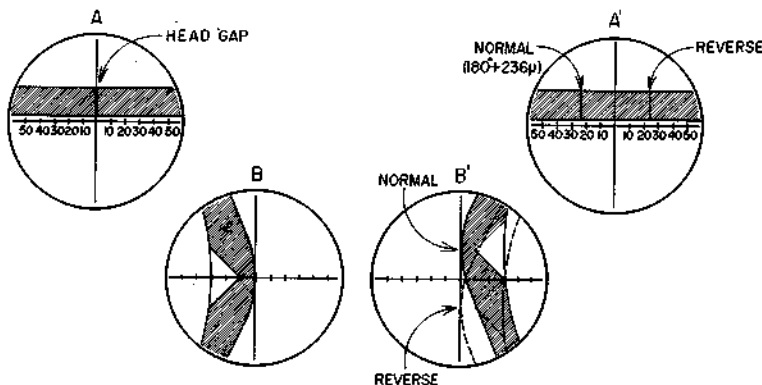

Fig. 4 Microscopic Views of Head Tip
- (b) Adjust the protrusion of the head tips so that they are aligned with the center line of microscopes (B) and (B') as shown in Fig. 4.